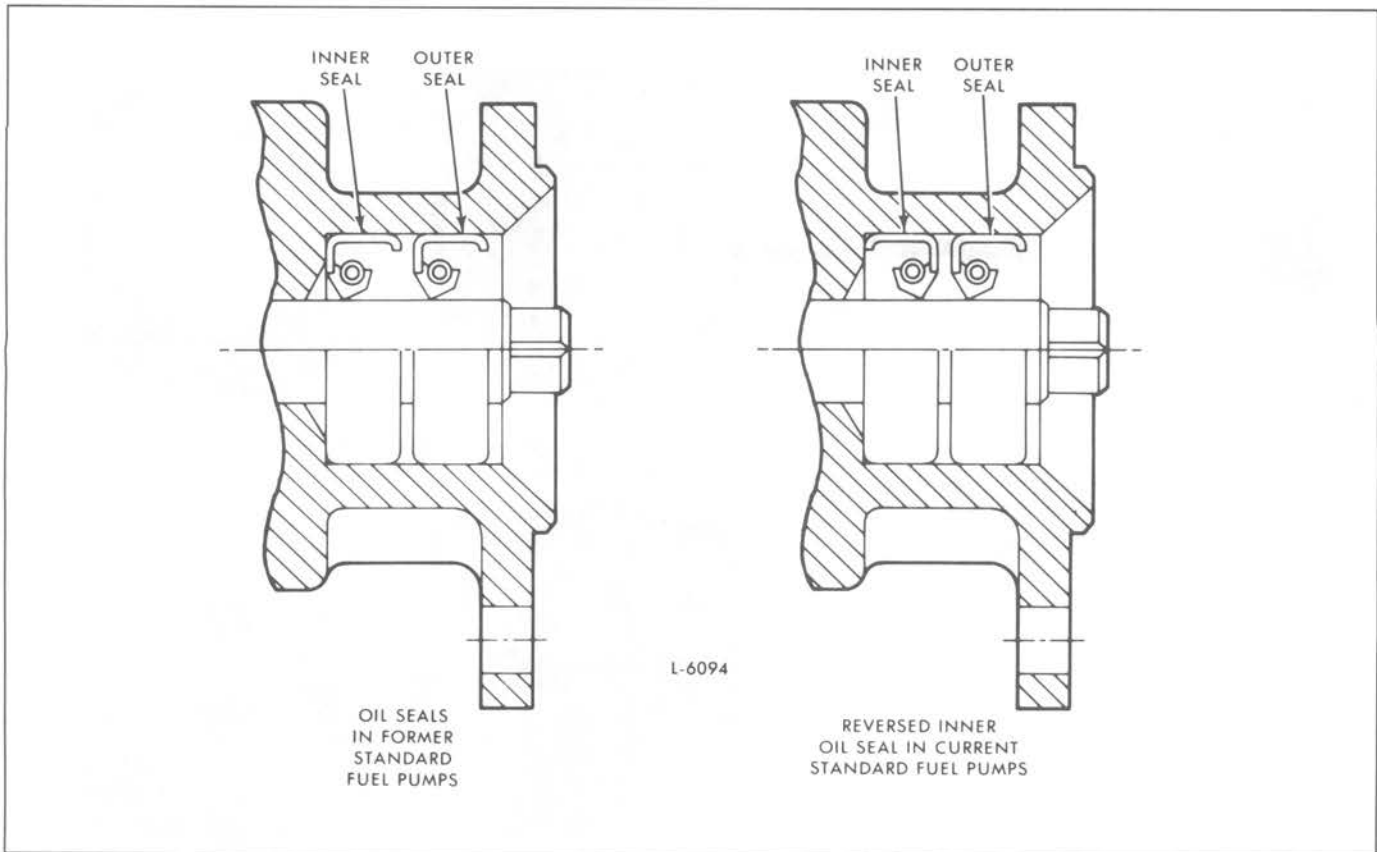

Fig. 4 – Fuel Pump Oil Seal Arrangements
- NOTICE:** When replacing the former nitrile fuel pump seals with the current polyacrylate seals, install them with the seal lips facing each other (Fig. 4).